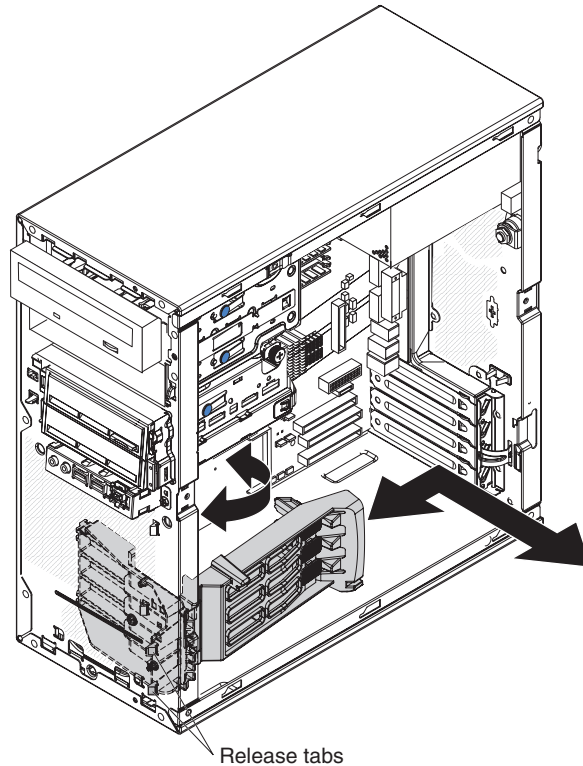

Figure 15. Installing the front adapter-retention bracket
2. Engage the lower retention tabs of the adapter-retention bracket with openings in the chassis and tilt the bracket toward the front of the computer (see Figure 15).